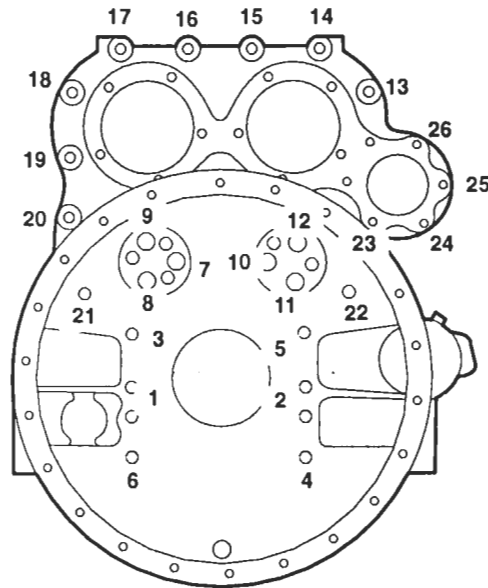

Figure 5. Flywheel Housing Bolt Tightening Sequence (Operation 2)
10. Refer to Figure 5. for the final bolt tightening sequence and, starting at number 1, tighten all of the bolts to the specified torque. Tighten the 3/8–16 inch idler gear hub and hole spacer flange hex head bolts to 30–35 lb-ft (41–47 N·m) torque. Tighten all other 3/8–16 and 3/8–24 inch bolts to 25–30 lb-ft (34–41 N·m) torque, and the 1/2–13 bolts to 90–100 lb-ft (122–136 N·m) torque (cast iron housing) or 71–75 lb-ft (96–102 N·m) torque (aluminum housing). Be sure to rotate the crankshaft when tightening the idler gear hub bolts and flywheel housing bell bolts.